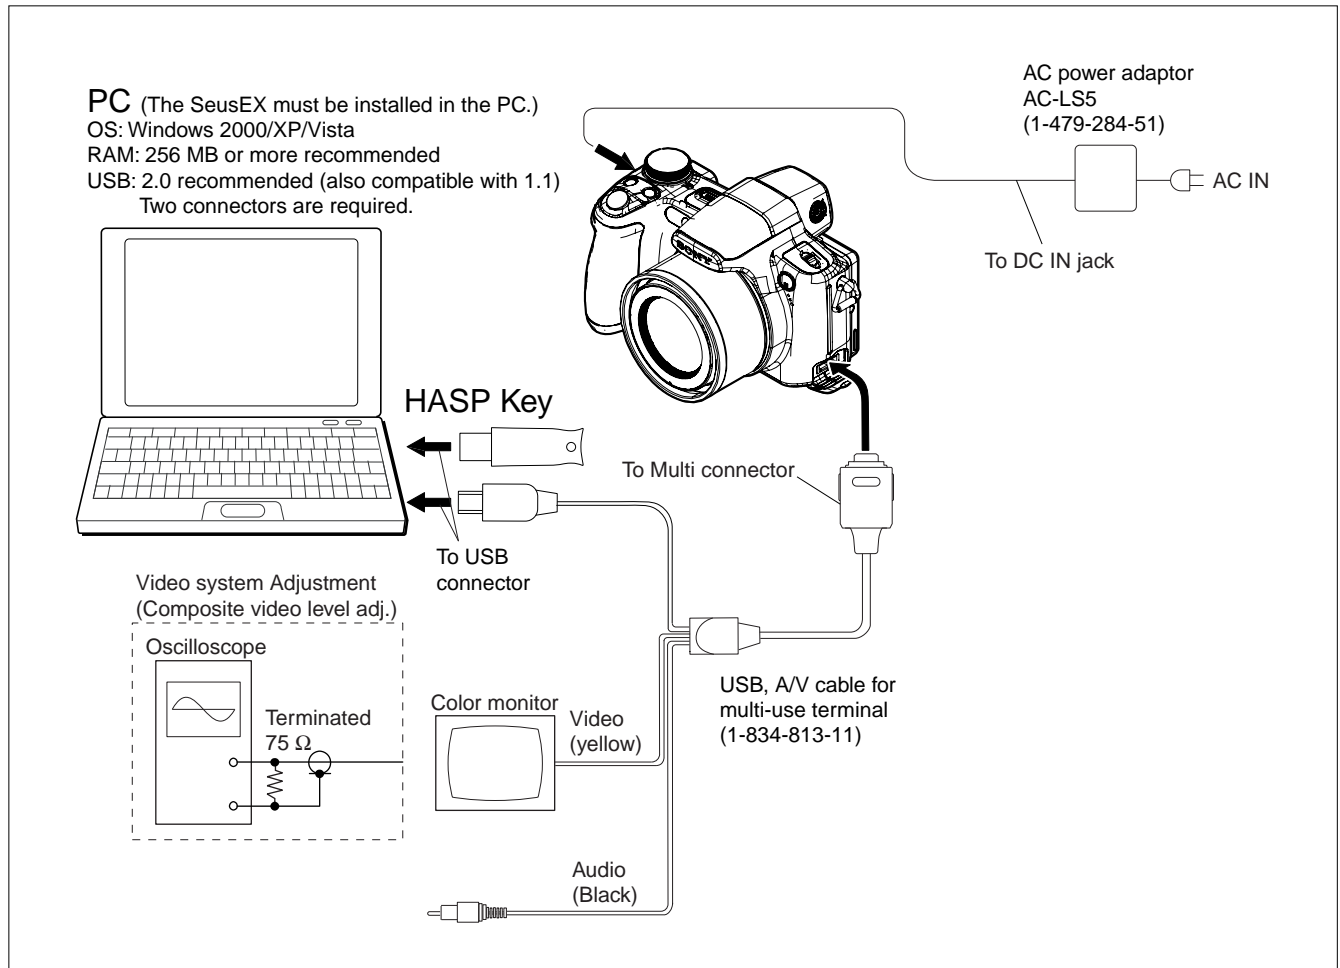

Fig. 6-1-2
- 1) Connect the equipment for adjustments according to Fig. 6-1-2.